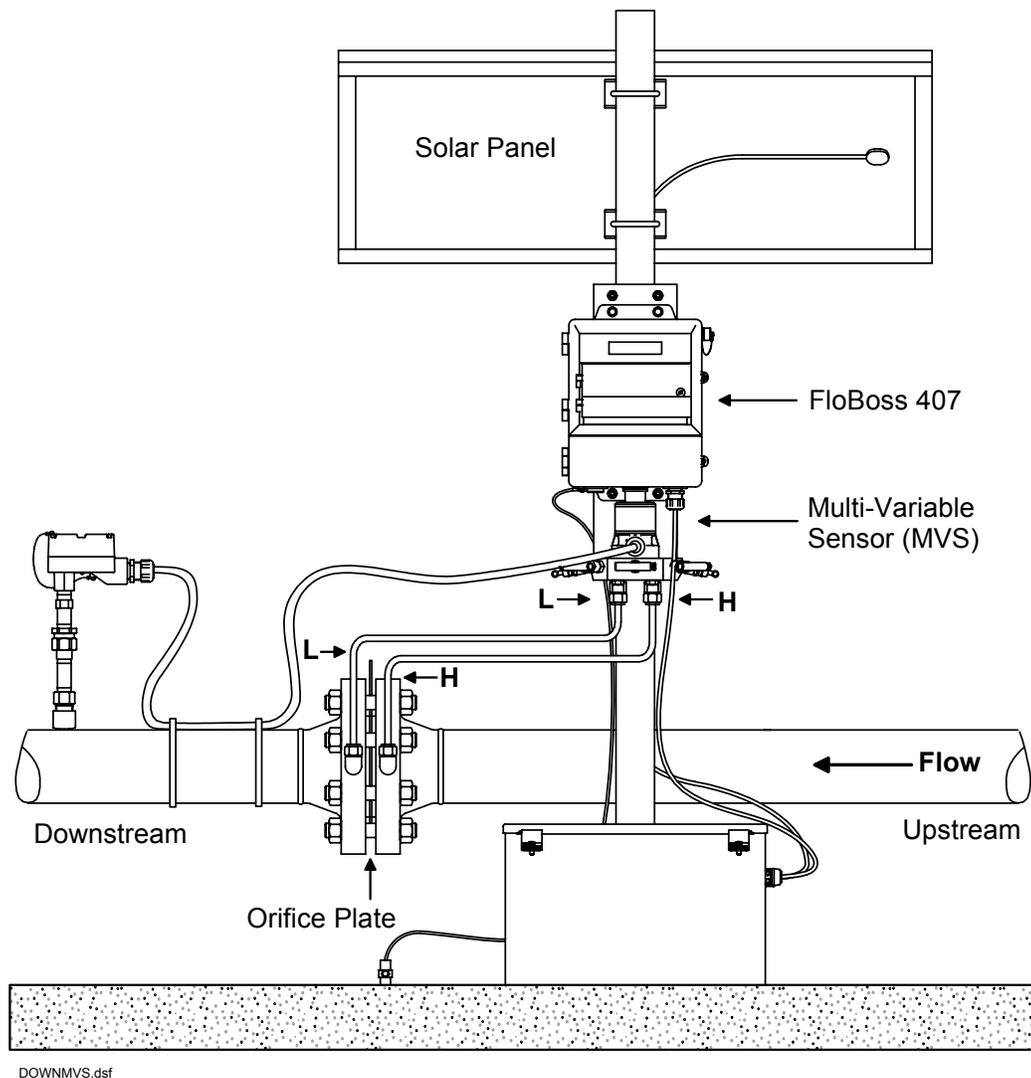

Figure 6-8. MVS Interface (Version 1.04 or greater) for Downstream Process Connections
To use the MVS with a FloBoss 407, or ROC300-series with a FlashPAC as a downstream device, connect the upstream pressure connections to the high (H) pressure side and the downstream pressure connections to the low (L) pressure side. Refer to Figure 6-8.